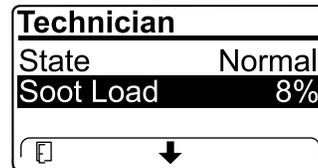

Figure 32
- View the soot load which is measured as the percentage of soot in the DPF (Figure 32); refer to the soot-load table.